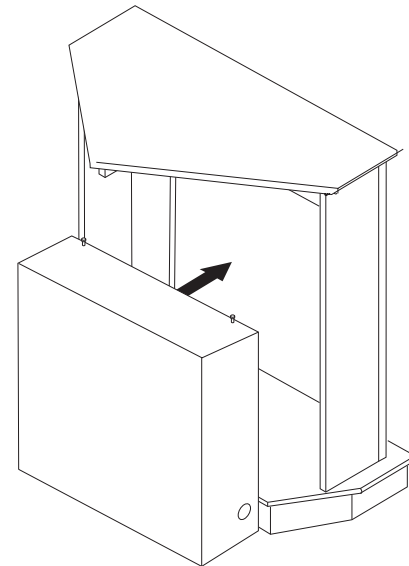

Figure 5 - Installing Gas Fireplace
5. Position fireplace inside mantel through back opening (see Figure 5). Carefully position gas lines if applicable. **IMPORTANT:** Use caution when positioning fireplace on base. Base may scratch easily. Make sure fireplace is in proper position within mantel opening before continuing with installation.